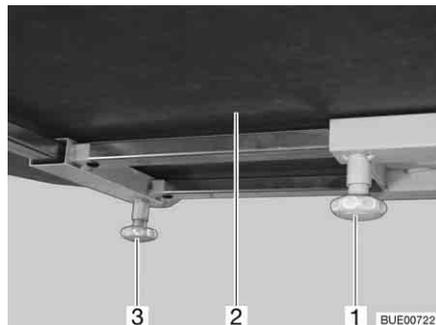

Fig. 86 Fixed table
- Loosen knurled screw (Fig. 86,1).
- Move table-top (Fig. 86,2) to the desired position.
- Loosen knurled screw (Fig. 86,3).